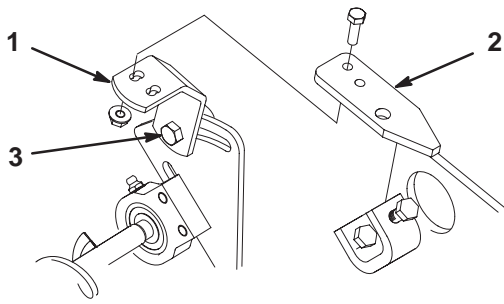

Figure 7
- Secure the support bracket to the underside of the cutting unit tab with 2 hex head screws (M6) and locknuts. Tighten the screws (Fig. 7).
15. While holding each hex extension with a wrench, tighten each hex head screw to 60 ft.-lb. Tighten the capscrew and flange nut securing the bearing adjustment plate to the support bracket (Fig. 7). Make sure that the brush to roller contact is not disturbed.